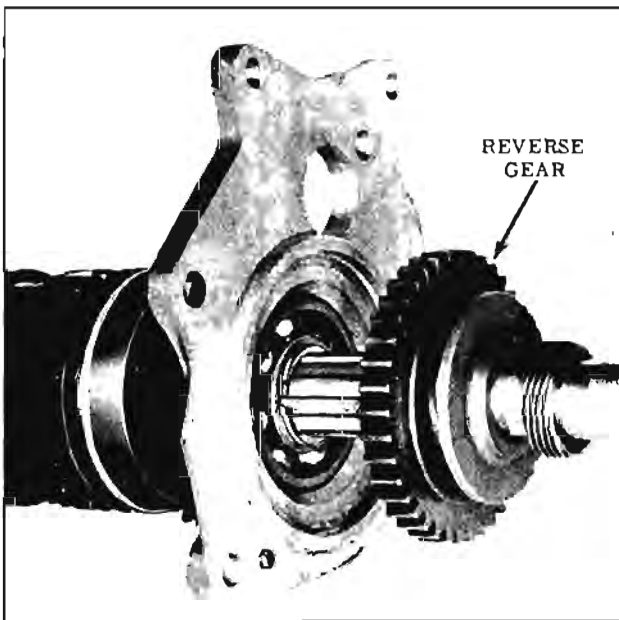

Fig. 11-244 Installing Reverse Gear
9. Install the reverse gear with the shift collar to rear on the splines of the main shaft. (Fig. 11-244)